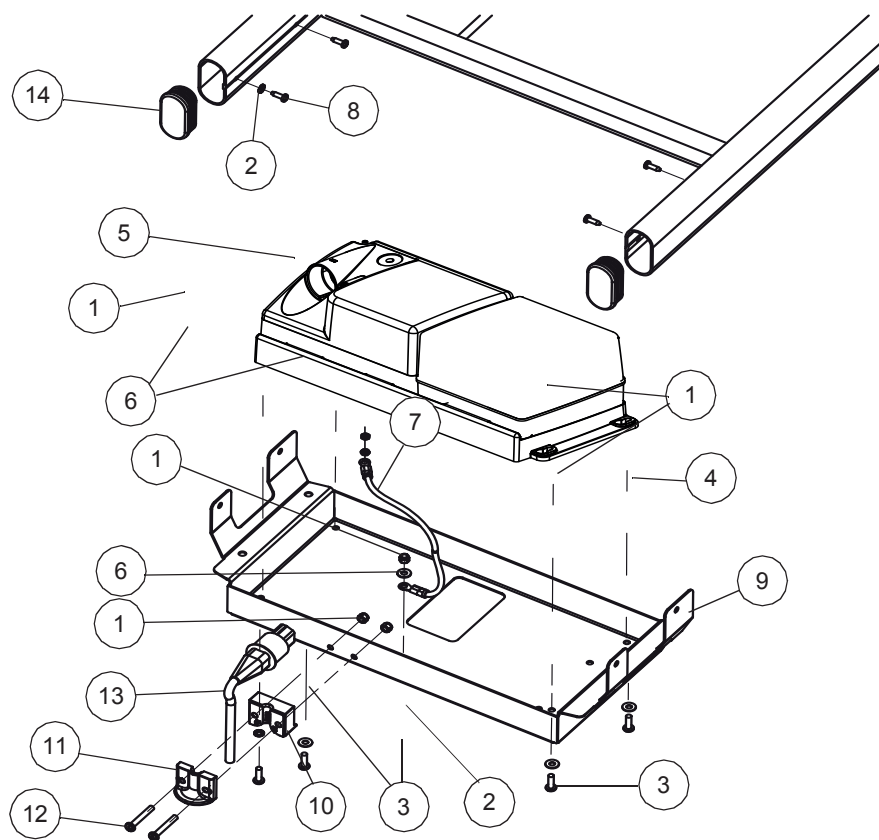

Figure 6: Control box and battery
This section describes how to replace the backup battery. Reference is made throughout this section to Figure 6 on page 38 and Figure on page 22.
- 9.1.3 Remove two panhead Pozidriv screws (Fig 6, Item 3) to detach the battery (Fig 6, Item 4) from the mounting plate (E). Collect four Nyloc nuts (Fig 6, Item 1) and remove the battery from the bed.
- 9.2.1 Attach the battery (Fig 6, Item 4) to the mounting plate using two panhead Pozidriv screws (Fig 6, Item 3) and four new Nyloc nuts (Fig 6, Item 1).
This section describes how to replace the electrical control box. Reference is made throughout this section to Figure on page 22 and Figure 6 on page 38.
- 11.1.1 Disconnect the backup battery (Fig , Item 5) from the control box (Fig , Item 6)/(Fig 6, Item 5) refer to Subsection 9.1 but do not remove it from the bed.
- 11.1.5 Undo the panhead Pozidriv screw (Fig 6, Item 3) to detach the control box from the mounting plate. Collect the Nyloc nut (Fig 6, Item 1) and two washers (Fig 6, Item 6).
- 11.2.1 Attach the control box (Fig , Item 6)/(Fig 6, Item 5) to the mounting plate using the panhead Pozidriv screw (Fig 6, Item 3) and two washers (Fig 6, Item 6); fit one washer under the screw head and the other between the control box and mounting plate. Secure the assembly with a new Nyloc nut (Fig 6, Item 1) below the mounting plate. Note: To prevent damage to the control box housing, do not over-tighten the screw.